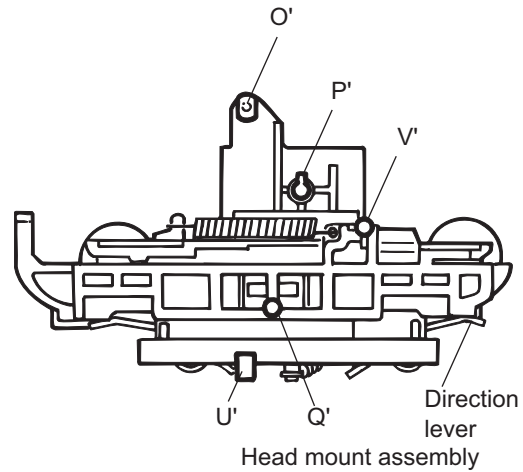
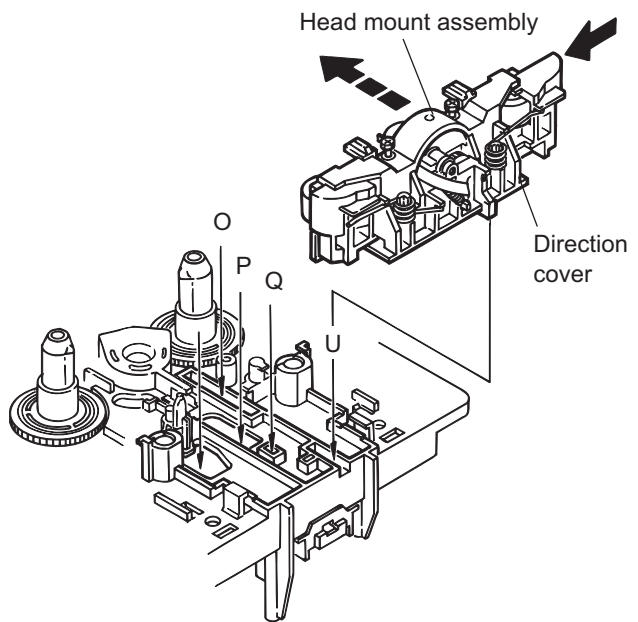
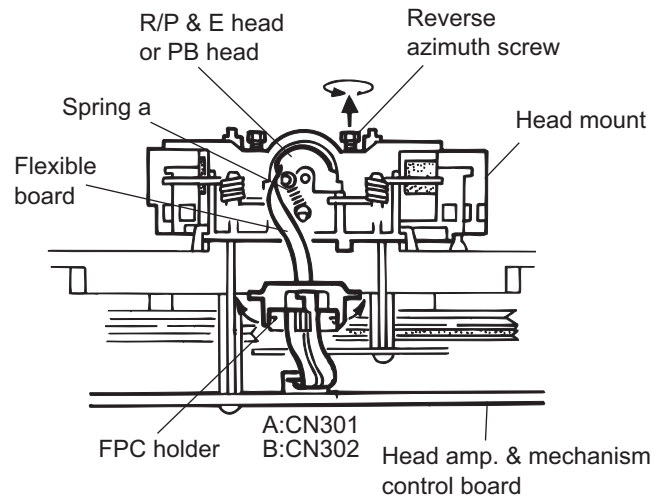

Fig.4
Fig.5
Fig.6
(See Fig. 4 to Fig. 6)**
- (1) Keep the direction lever of head mount assembly to left side (head direction is forward direction).
- (2) Fix the head mount assembly boss **O'**, **P'**, **Q'**, **U'** and **V'** to mechanism sub assembly hole **P**, **V** and ditch **O**, **U** and **Q** (See Fig. 4 and Fig. 5).
- (3) Fix the reversing azimuth screw.
- (4) Attaching the spring a from back side of playback / recording & eraser head.
- (5) Attaching the flexible board to the chassis base.